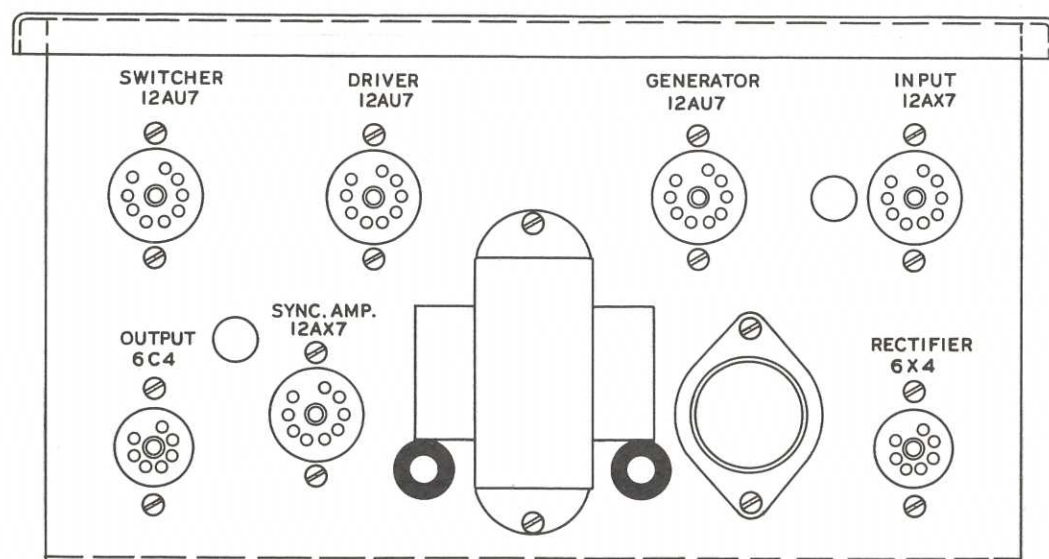

Figure 10
- ( ) Install the tubes in their proper sockets. See Figure 10 on Page 16.